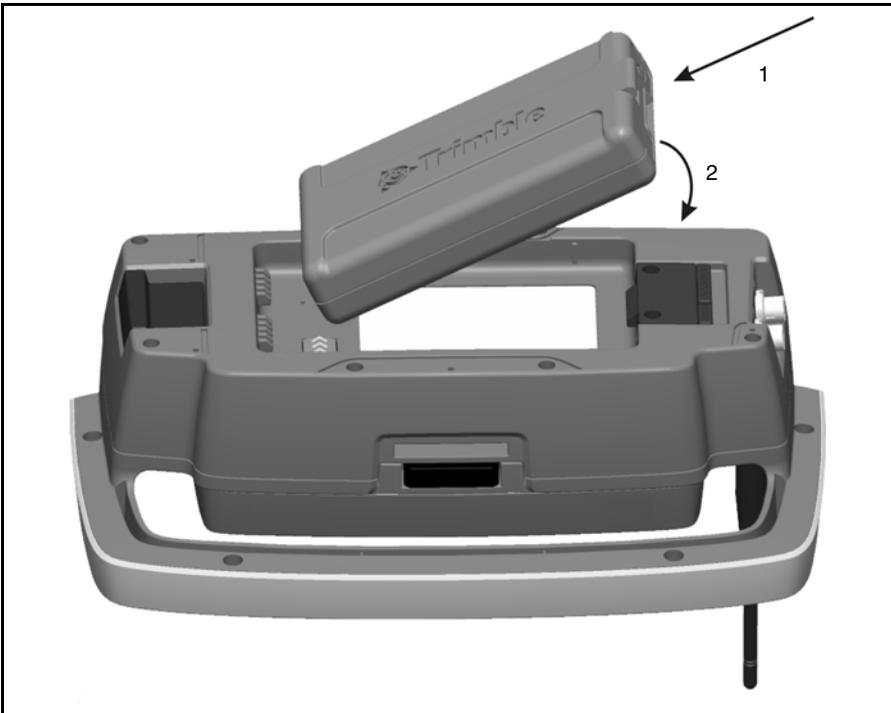

Figure 7.66 Attaching a battery to the Trimble Robotic Holder
1. Fit the battery on to the hooks on the holder (1).
2. Push the battery on to the holder until it clicks into place (2). See figure 7.66